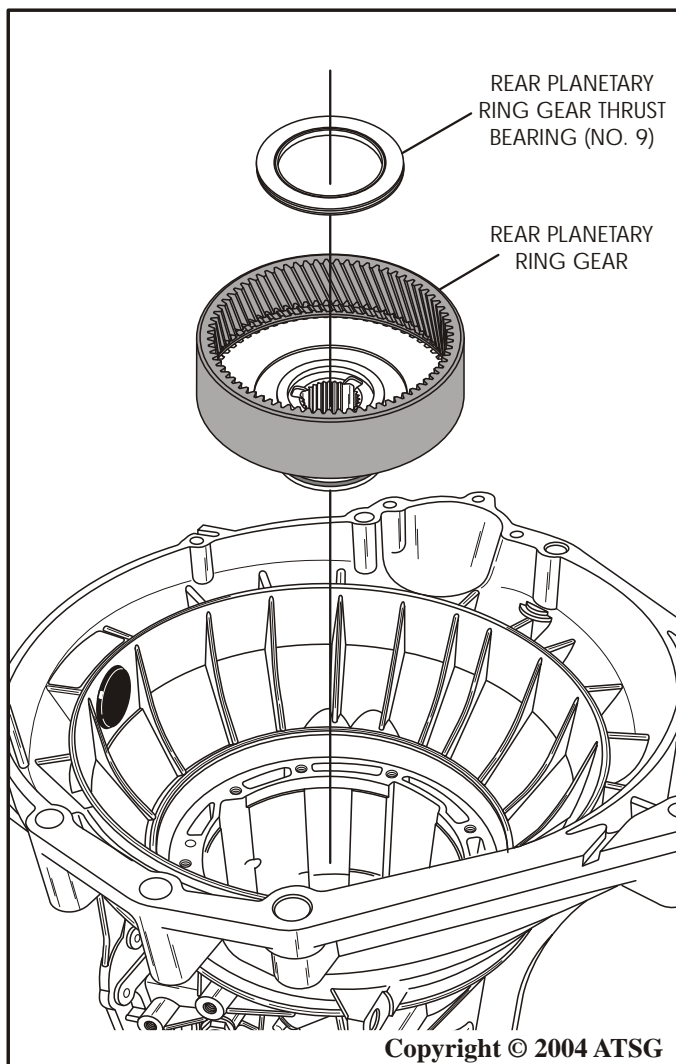

Figure 50
55. Remove and tag for identification, the rear ring gear (No. 9) thrust bearing (See Figure 50).
56. Remove the rear planetary ring gear from the transmission, as shown in Figure 50.